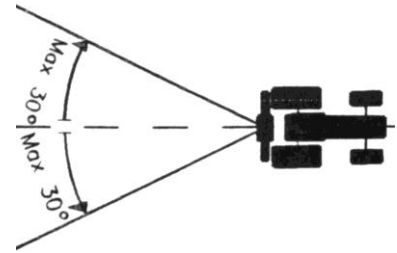

Figure 5
28. Do not use the winch for unintended purposes (lifting loads, etc.).(Figure 5)